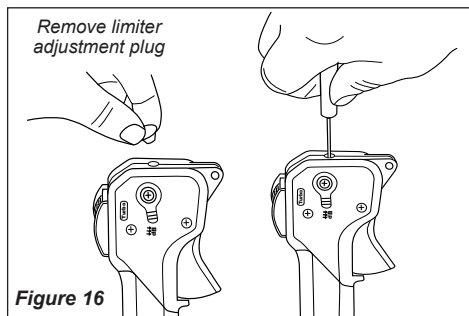

Figure 16
1. Remove the plug located at the top of the throttle assembly. See Figure 16
2. Move the throttle limiter lever to the “dB” setting. See Figure 16.